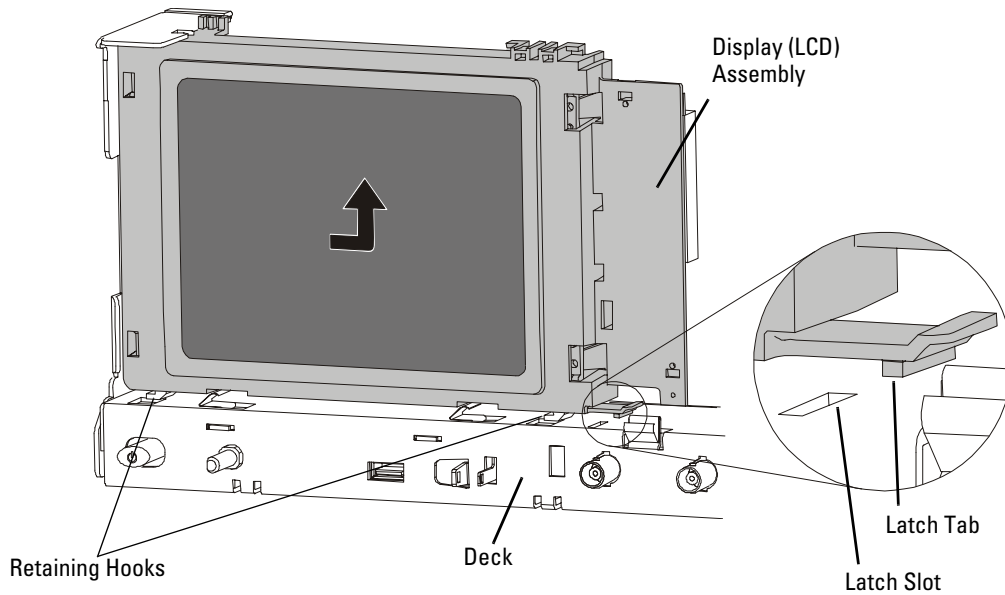

Figure 25 Removing the display assembly
- c** Ensure the latch tab is seated in its hole as shown in Figure 25.